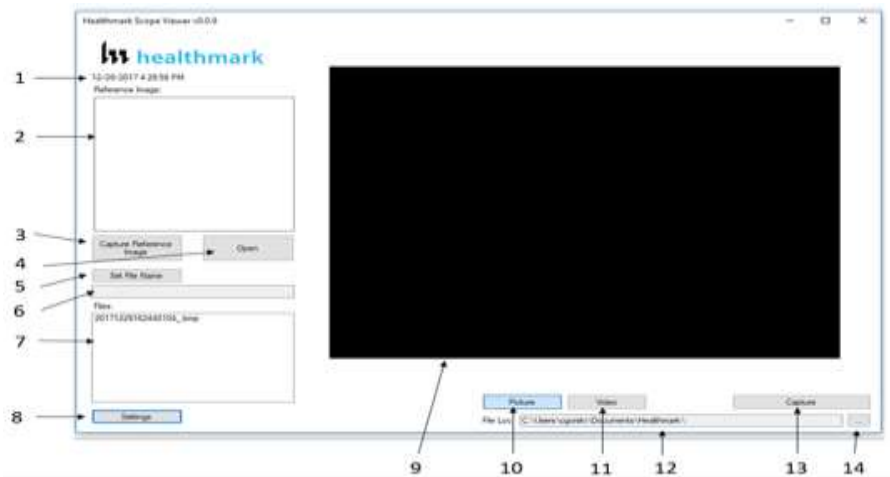

Figure 4
### Healthmark Viewer Software (Fig. 4)
1. Click the *Settings* button (#8 from Fig 4 above) in the Healthmark Scope Viewer software interface to display Video Devices detected by your computer